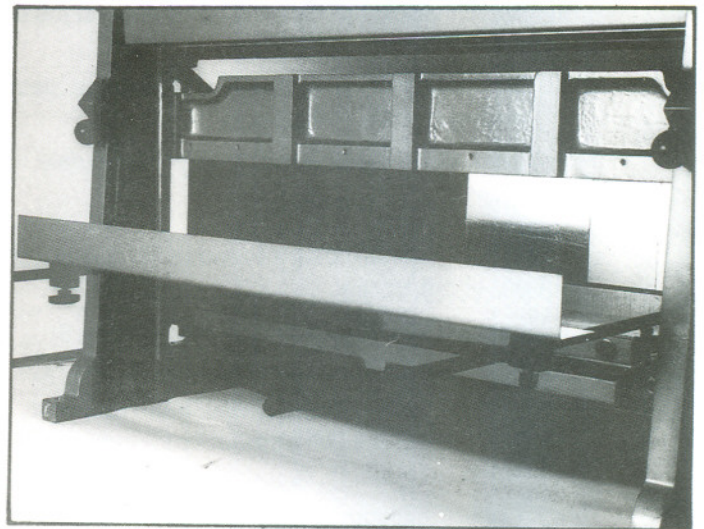
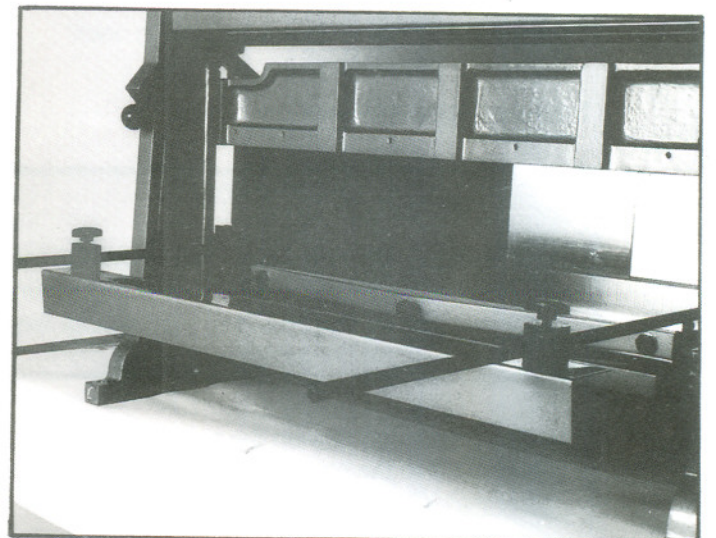

Fig. 2
Fig. 3
11. Back gauge assembly is installed in either the shear position (angle iron faces up - Fig. 2) or the brake position (angle iron faces down - Fig. 3).